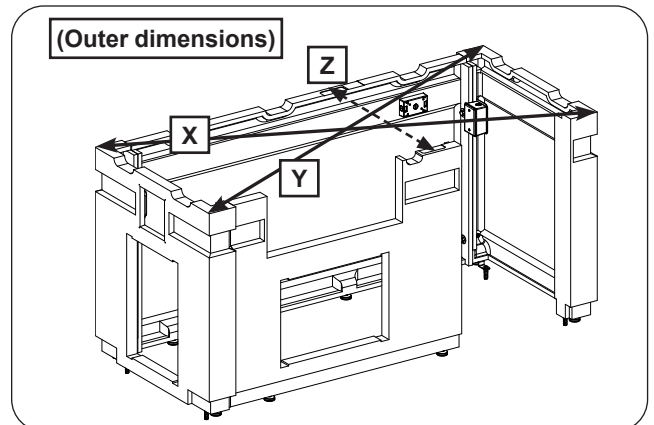

Fig. 9-2 Square unit (then tighten all bolts)
- a. Measure the X outer dimension, see Fig. 9-2. It should be approximately 79 $\frac{3}{4}$ ".
- b. Measure the Y outer dimension, see Fig. 9-2. Carefully adjust the side walls as needed to ensure the X & Y dimensions are equal. (The final dimension may slightly vary from that mentioned in step a.)
- c. Measure the Z outer dimension, see Fig. 9-2. It should be approximately 30 $\frac{1}{2}$ ".